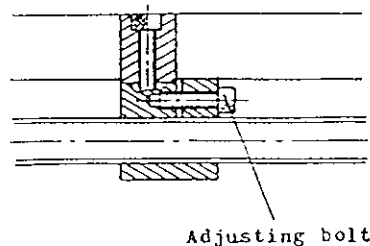

FIG. 18
7.8 BACKLASH ADJUSTMENT OF SADDLE LEADSCREW (FIG. 18)